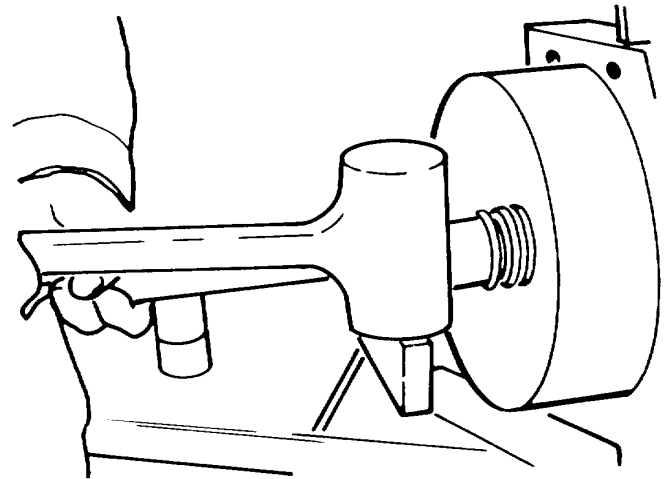

Figure A-34. Flywheel
c. Flywheel. Make sure the crankshaft taper is free of oil and grease. Insert the flywheel key and slide the flywheel onto the crankshaft taper. Reinstall the flywheel retaining nut. With the striker bar and a mallet, securely tighten the retaining nut. (Figure A-34.)